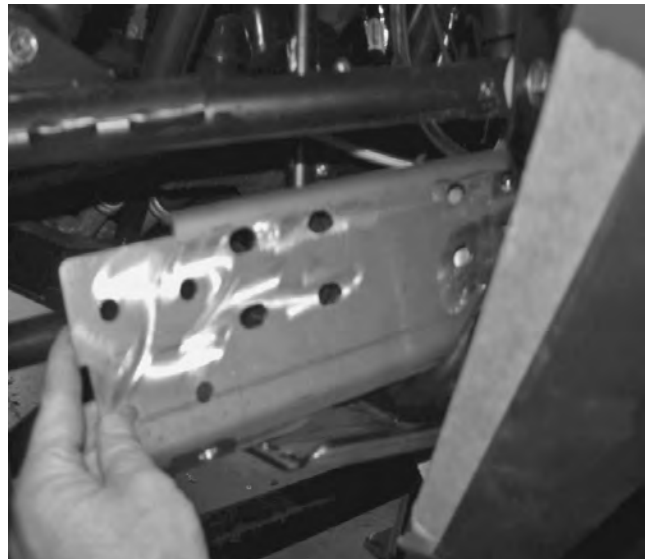

Figure 5
6. Slip the main support bracket (A1) behind the two main frame tubes; see figure 5.